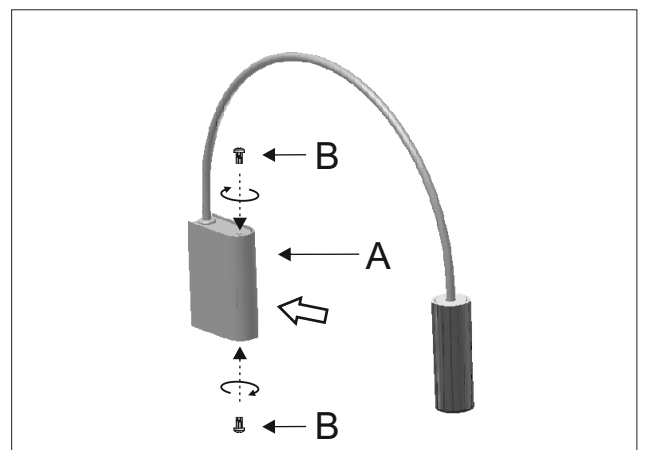

Figure 5
5 - Place the canopy back (A) and screw the screws (B) located at the top and bottom. Figure 5
5- Colocar de nuevo el tapapated (A) y roscar los tornillos (B) situados en la parte superior e inferior del mismo. Figure 5.